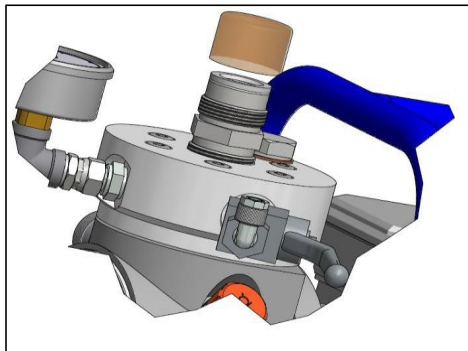

Fig.8.2.1
1. (Fig.8.2.1) remove the protective cap from the inlet valve (pull upwards)